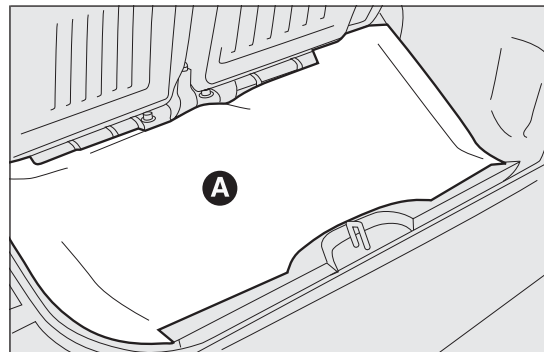

fig. 96
- ☐ lift the boot mat A fig. 96